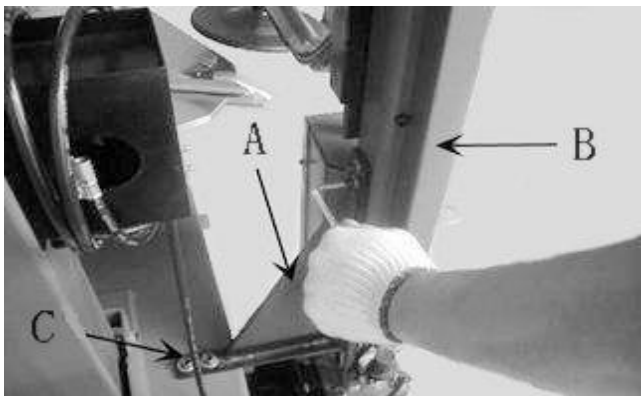
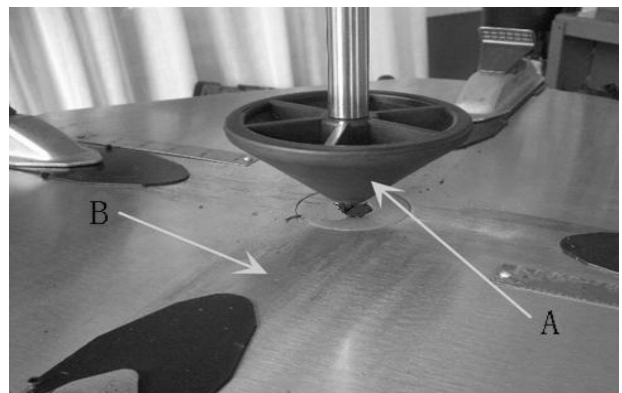
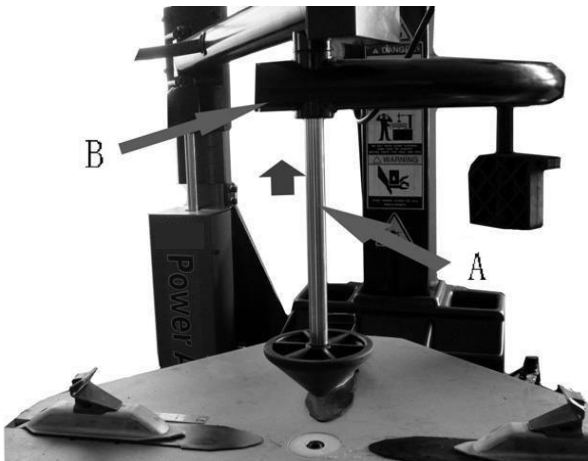

Fig 7-4
Fig 7-6
Fig 7-7
7.1.5Use the fix supporting bracket (Fig7-4 A) to connect the body bracket and the body and insert the screw to fix
7.1.7 Connect the air source, insert the press cone roller connect rod (Fig 7-6 A) into the rotation shaft hole(Fig7-6 B) of the rotation arm. Handle manual direction change valve to make the tip of the press cone roller coincide to the center of the turntable (Fig7-7) . If not coincide, use the screw to adjust the position of the base(Fig7-4) to realize the coincide. After adjustment, fix the bolt.